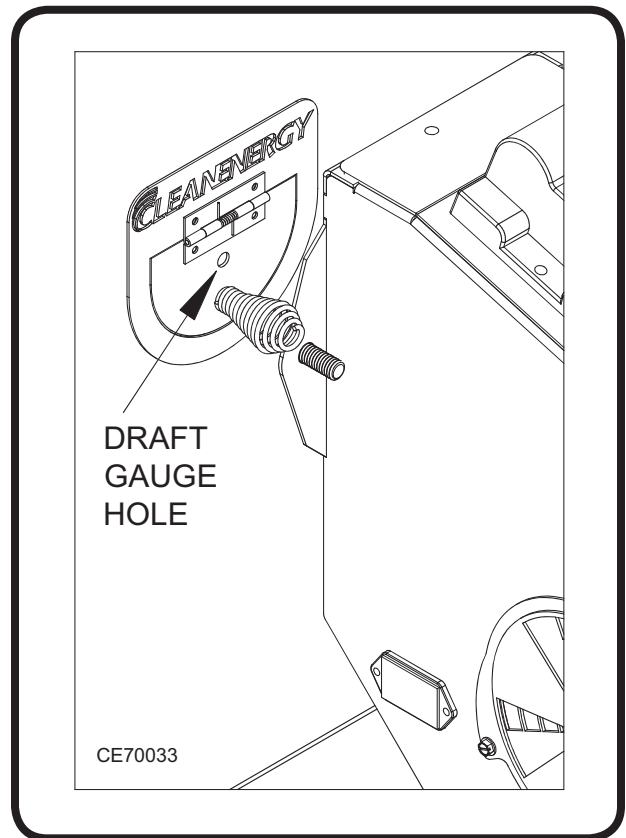

Figure 26: Draft Gauge Hole in the Observation Port
- (1) Allow the boiler to run for 5 to 10 minutes.
- (2) Refer to Figure 26 to locate the draft gauge hole.
- (3) Insert a draft gauge through the hole in the observation port. Follow the manufacturers instructions for adjusting the barometric damper to obtain $-0.02''$ w.c. draft over fire.
- (4) If a proper draft is not obtained, follow the instructions below to check for a vacuum in your building.